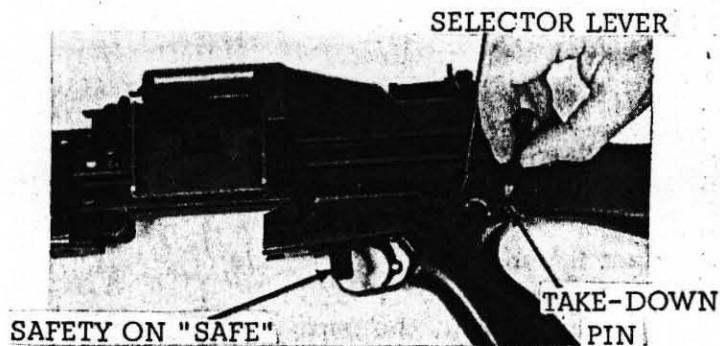

FIGURE 11. DISENGAGING THE
- (1) Move the safety to the "Safe" position, (figure 11).
- (2) Pull the cocking handle on the right side of the receiver to the rear until the action is locked open.
- (3) Return the cocking handle to the forward, locked position.
- (1) With the bolt closed and the safety on "Safe," push the take-down pin out (figure 11).